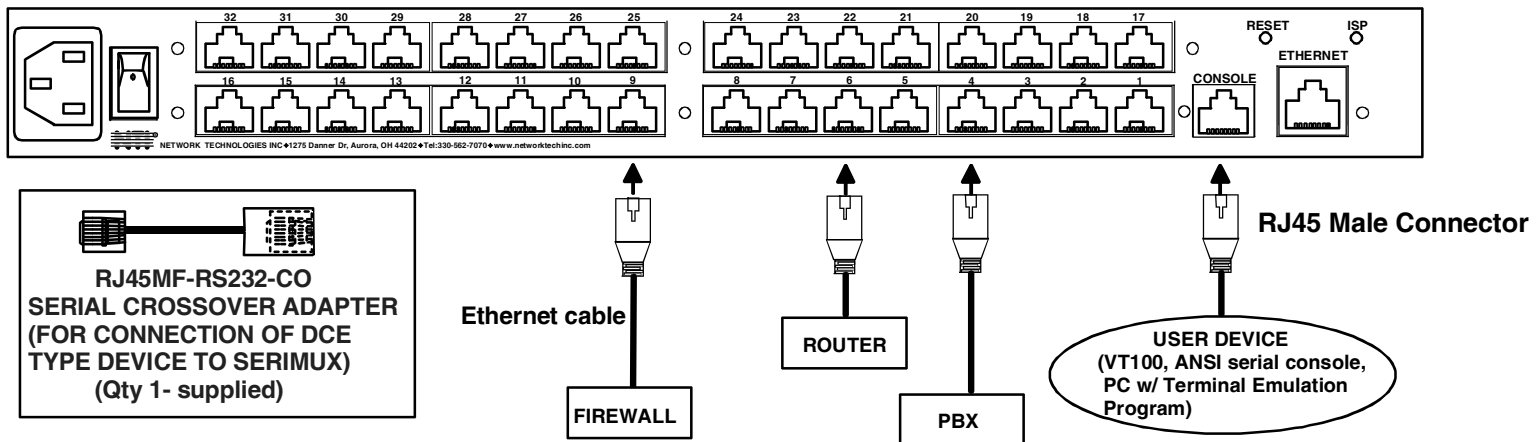

Figure 3- Connect terminals and devices to SERIMUX Console Switch
1. Connect a serial device to the port labeled "CONSOLE" on the SERIMUX using a serial cable with an RJ45 male connector (see cable specification on page 59). This will be the default administrator device. (Figure 3)